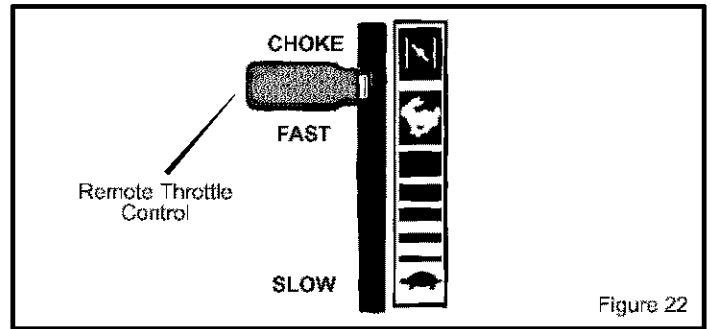

Figure 22
1. Move the **remote throttle control** to the **FAST** position (see Figure 22).
2. With engine running, put the **remote throttle control** in **SLOW** position (see Figure 22).